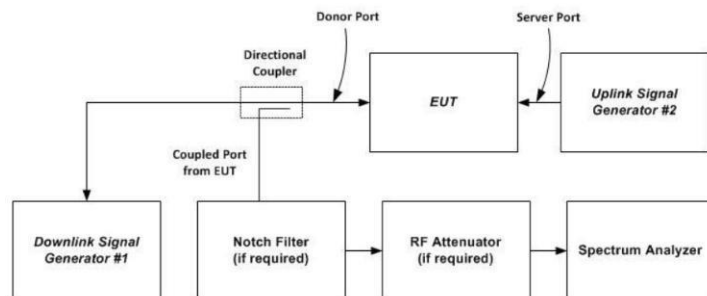

Figure 5–Variable gain instrumentation test setup
- Connect the EUT to the test equipment as shown in Figure 5 with the uplink output (donor) port connected to signal generator #1. Affirm that the coupled path of the RF coupler is connected to the spectrum analyzer.
- Measure the maximum channel power and compute maximum gain when varying the signal generator #1 output to a level from -90 dBm to -20 dBm , as measured at the input port (i.e., downlink signal level at the booster donor port node of Figure 5), in 1 dB steps inside the RSSI-dependent region, and 10 dB steps outside the RSSI-dependent region. Report the six values closest to the limit, including at least two points from within the RSSI-dependent region of operation. See gain limit in charts in Appendix D for uplink gain requirements. Additionally, document that the EUT provides equivalent uplink and downlink gain, and when operating in shutoff mode that the uplink and downlink gain is within the transmit power off mode gain limits.
Variable uplink gain timing is to be measured as follows, using the test setup shown in Figure 5.